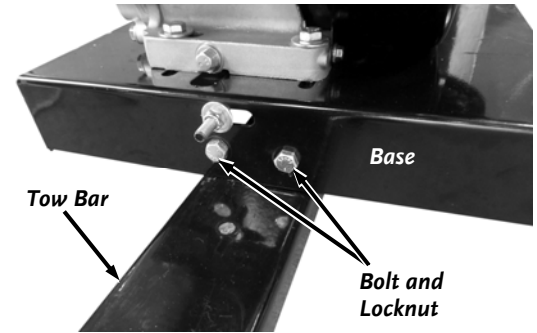

Figure 4
1. Position the Tow Bar under the Base and secure the front Bracket with two 3/8-16 x 1" Bolts and Locknuts using two 9/16" Wrenches (**Figure 4**).